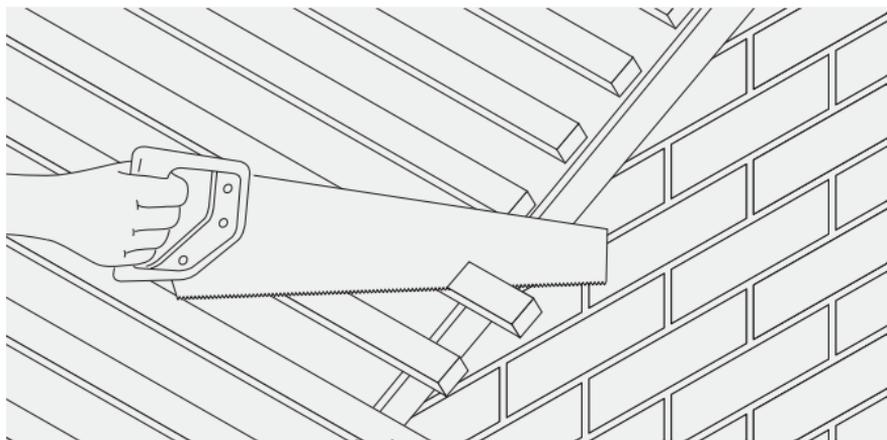

Fig. 49 – Saw battens flush
- 1 Where possible, set out the tiling so that the leg of the cloak verge fits flush with the brickwork or bargeboard. If this is the case, cut the ends of the battens flush with the outer edge of the gable wall or bargeboard (Fig. 49).